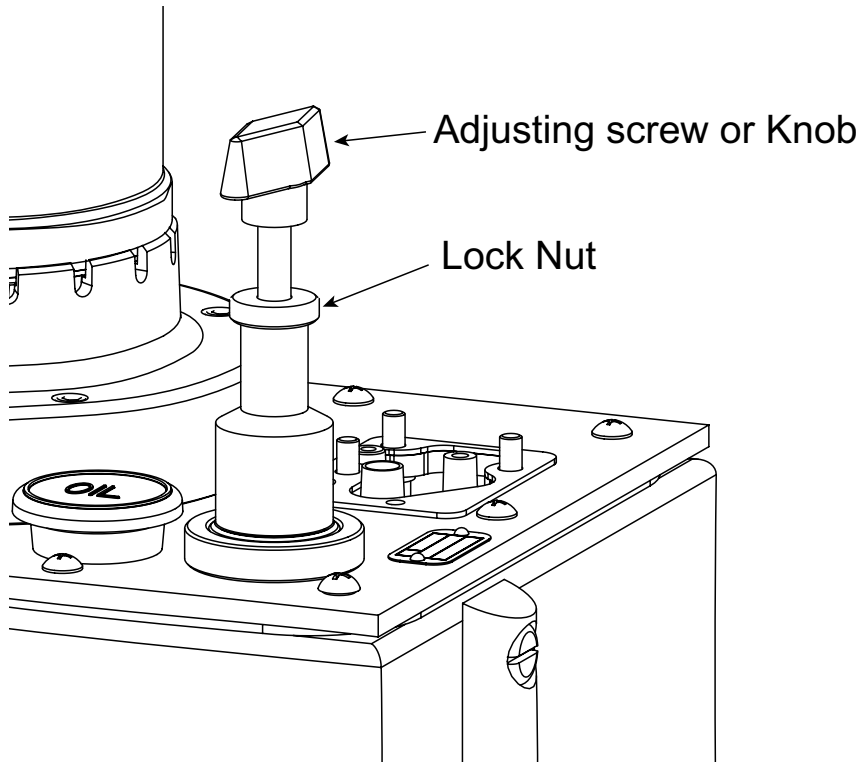

Fig. 5. Pressure Regulator Valve
- A. Loosen the locknut on the pressure regulating valve, and back the adjusting screw or knob out a few turns by turning it in a counterclockwise (CCW) direction (See Figure 5). This will decrease the setting to a lower than desired pressure.
- C. Slowly turn the adjusting screw or knob in a clockwise (CW) direction. This gradually increases the pressure setting. When the desired pressure is reached, cycle the pump again to verify correct pressure setting. Once set, lock the adjusting screw in position by tightening the locknut. Shut off the pump.